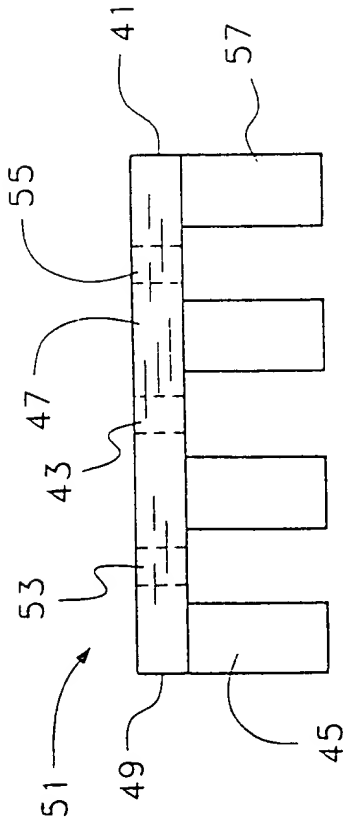

Fig. 5
The present invention is an anchoring biscuit device for joining three boards. Appendix B contains three pages of drawings, the first page showing Figures 1 through 4, the second page showing Figures 5 through 8, and the third page illustrating Figures 9 through 11. Referring specifically to Figures 1, 2 and 3 in Appendix B, there is shown a first substantially flat horizontal top element (3) having a generally biscuit-shaped top view configuration, at least two substantially vertical support members (15 and 17) attached to the underside of the top element and extending downwardly therefrom for a predetermined length to place the top element at a predetermined height for joinder of two adjacent boards which have been pre-cut with biscuit receiving slots. In the present invention device, there is an attachment means established by at least one hole (13) formed at the top element with a space